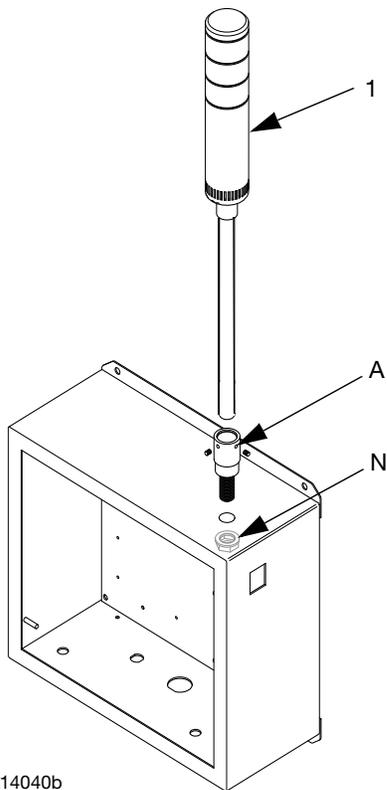

FIG. 1: Install Beacon on EasyKey™
1. Feed wires through the hole in adapter (A) and secure the adapter to beacon (1) with set screws.
2. Remove the 3/4 in. (19 mm) knockout on top of the EasyKey. Feed the wires through the hole and secure the beacon (1) with the jam nut (N) and washer on the inside of the box. See FIG. 1.